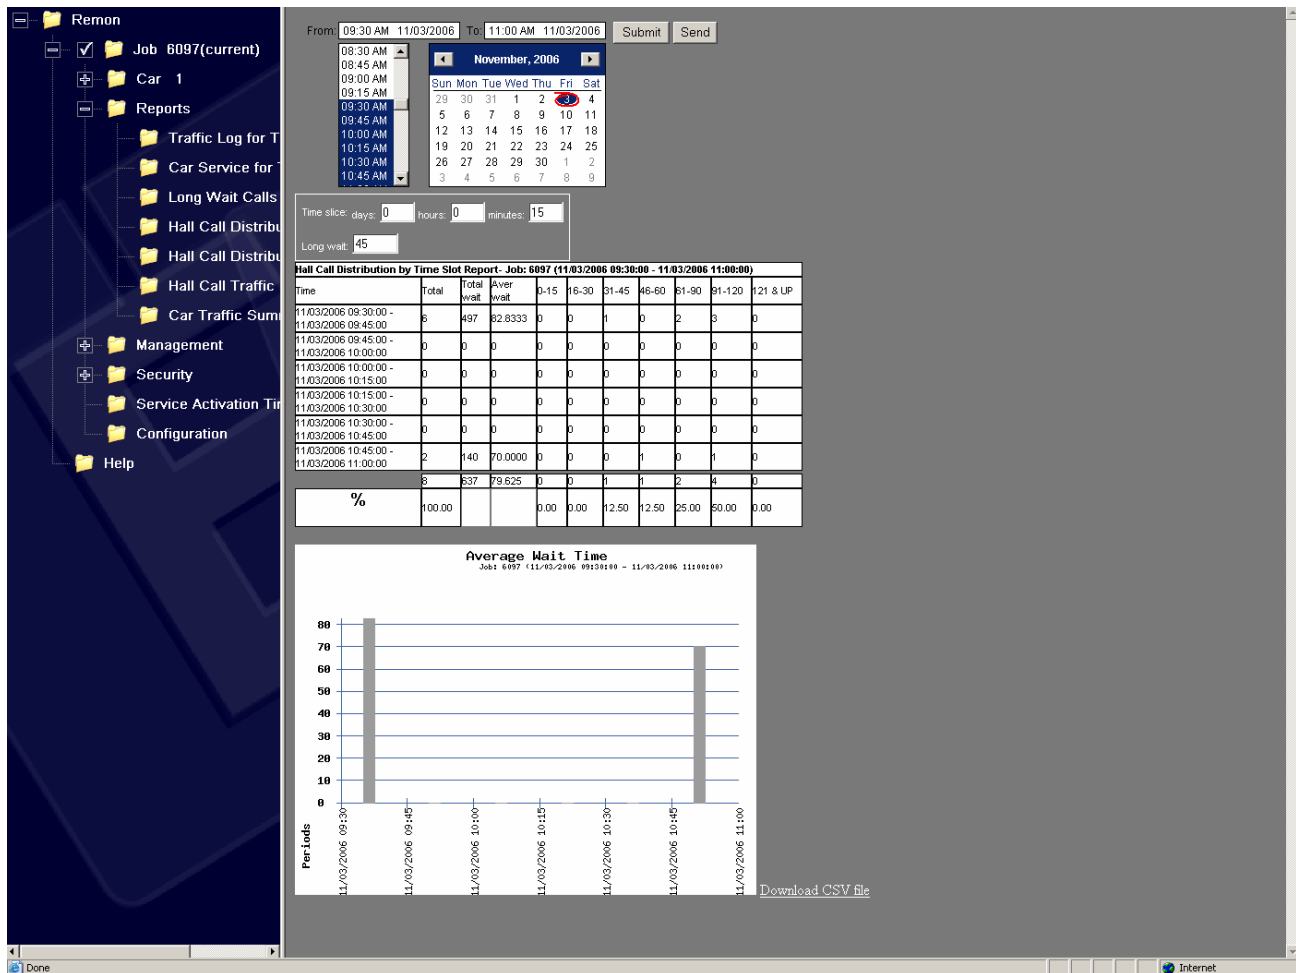

Figure 31. Hall Call Distribution By Time Slot Report Screen
- Click “Submit” button to display the report in the data display area.as shown in Figure 31. Hall Call Distribution By Time Slot Report Screen. After receiving the report the user can adjust time range and resubmit his request. The report is redisplayed with different data corresponding to new time range. To provide reasonable system response and reasonable network load the data output is limited to 500 lines. If there are more than 500 lines in the report an information string (“More data is available”) is displayed in the last line of the list.